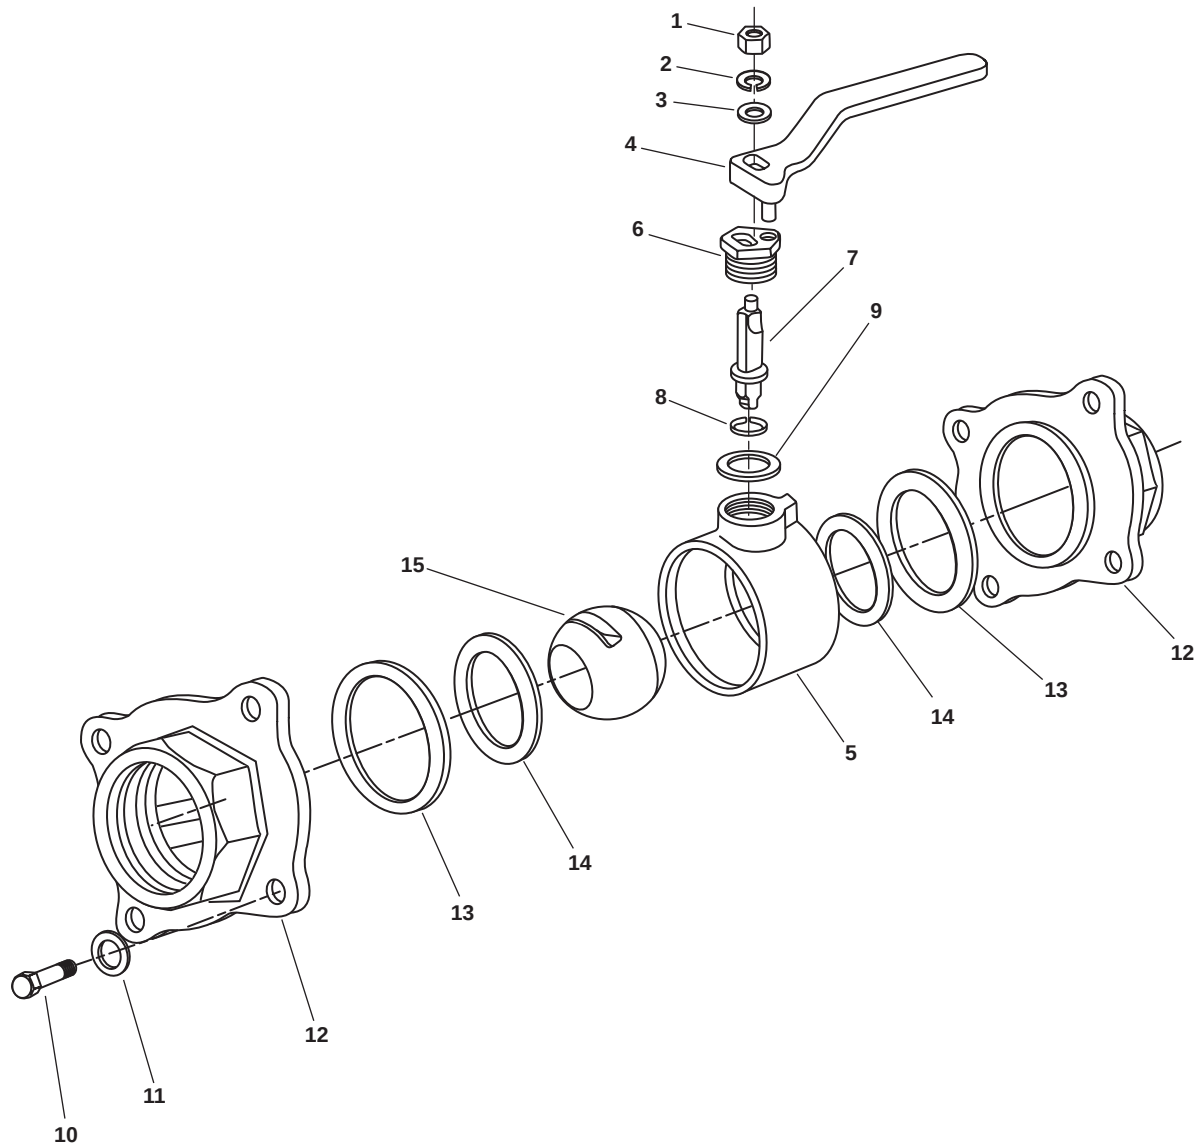

Figure 1. Threaded Ball Valve
1. Remove the nut (figure 1, item 1), the lockwasher (figure 1, item 2), the flat washer (figure 1, item 3), and the handle (figure 1, item 4) from the valve body (figure 1, item 5).
2. Remove the retainer (figure 1, item 6), the valve stem (figure 1, item 7), and the retainer packing (figure 1, item 8) from the valve body (figure 1, item 5). Discard the retainer packing.
3. Remove the packing (figure 1, item 9) from the valve body (figure 1, item 5). Discard the packing.
4. Remove the four bolts (figure 1, item 10) and flat washers (figure 1, item 11), and separate the end fittings (figure 1, item 12) from the valve body (figure 1, item 5).
5. Remove the packing (figure 1, item 13), the valve seats (figure 1, item 14), and the ball (figure 1, item 15) from the valve body (figure 1, item 5). Discard the packing and valve seats.
3. Install new packing (figure 1, item 13), new valve seats (figure 1, item 14), and the ball (figure 1, item 15) in the valve body (figure 1, item 5), and secure them with the four bolts (figure 1, item 10), flat washers (figure 1, item 11), and the end fittings (figure 1, item 12).
4. Install new packing (figure 1, item 9) in the valve body (figure 1, item 5).
5. Install the valve stem (figure 1, item 7) and new retainer packing (figure 1, item 8) in the valve body (figure 1, item 5), and secure them with the retainer (figure 1, item 6).
6. Install the handle (figure 1, item 4) on the valve body (figure 1, item 5) and secure it with the nut (figure 1, item 1), a new lockwasher (figure 1, item 2), and the flat washer (figure 1, item 3).